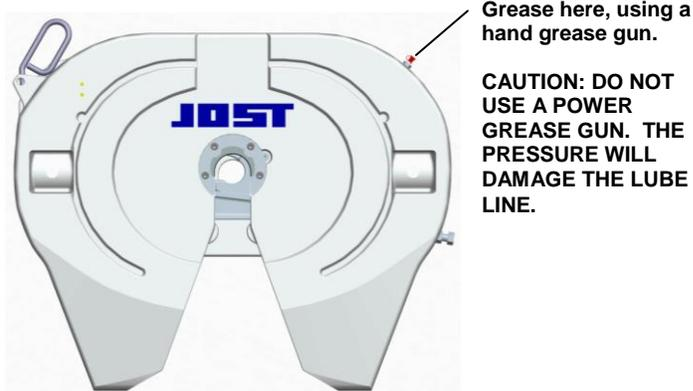

FIGURE 1
1. Lubricate the kingpin lock using a hand pump grease gun through the grease zerk provided on the skirt of the fifth wheel. (see figure 1)